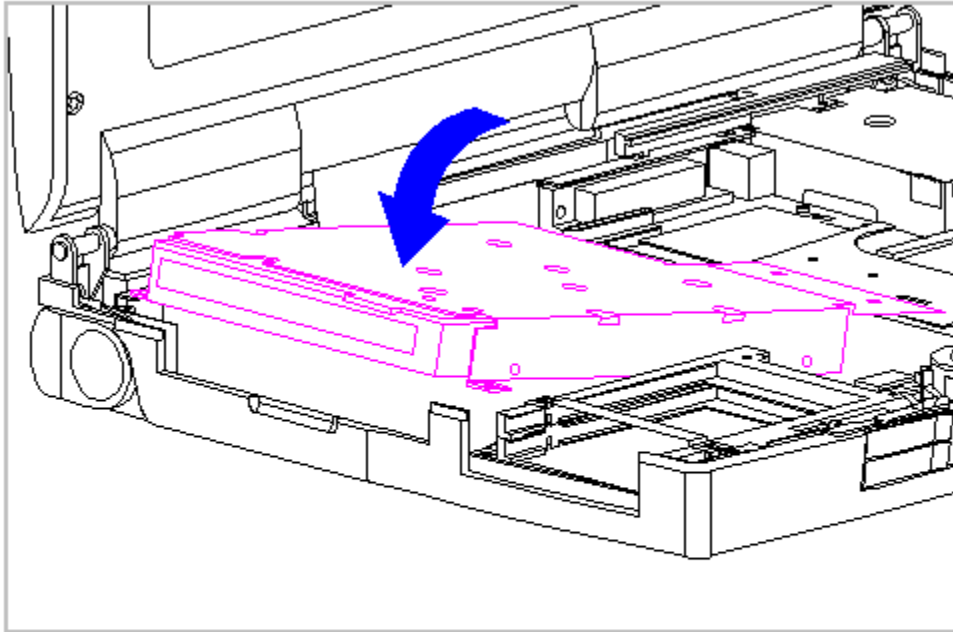

Figure 5-42. Replacing the Diskette Drive
3. Close the diskette drive door slightly while lowering the front of the diskette drive into the system chassis (Figure 5-42).